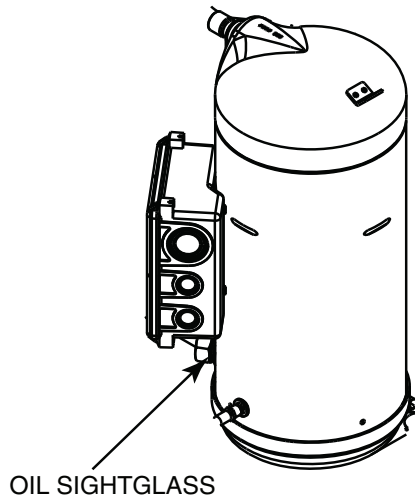

Fig. 20 — Sight Glass Location
5. Oil should be visible in the compressor sightglass(es). See Fig. 20. An acceptable oil level in the compressors is from 1/8 to 3/8 of sight glass when the compressors are off. Adjust the oil level as required. See Oil Charge section on page 37 for Carrier approved oils.